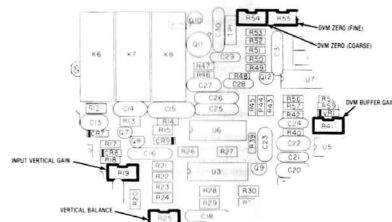

Figure 5-13. Front Panel Interface Alignment Points
5. Adjust the Input Vertical Gain Potentiometer on the Front Panel Interface Board (Figure 5-13) for a 6 cm p-p sine wave on the CRT. (Use the front panel Position Controls to center the waveform on the CRT.)
3. Adjust the DVM Zero (Coarse) and the DVM Zero (Fine) Potentiometers on the Front Panel Interface Board (Figure 5-13) for a zero reading on the DVM Display.
4. Adjust the Coarse DVM Zero and the Fine DVM Zero on the Front Panel Interface Board (Figure 5-13) until the external DVM reads 0 ± 0.5 millivolts DC.
5. Remove the short circuit on the DVM input jack and apply approximately 0.900 volts DC from an external power supply. The voltage between TP2 and TP9 of the Scope DVM Control Board should be within ± 1 mv of the voltage at the front panel DVM input jack. If the unit fails this test, adjust the DVM Buffer Gain on the Front Panel Interface Board (Figure 5-13) until the above two voltages are equal.